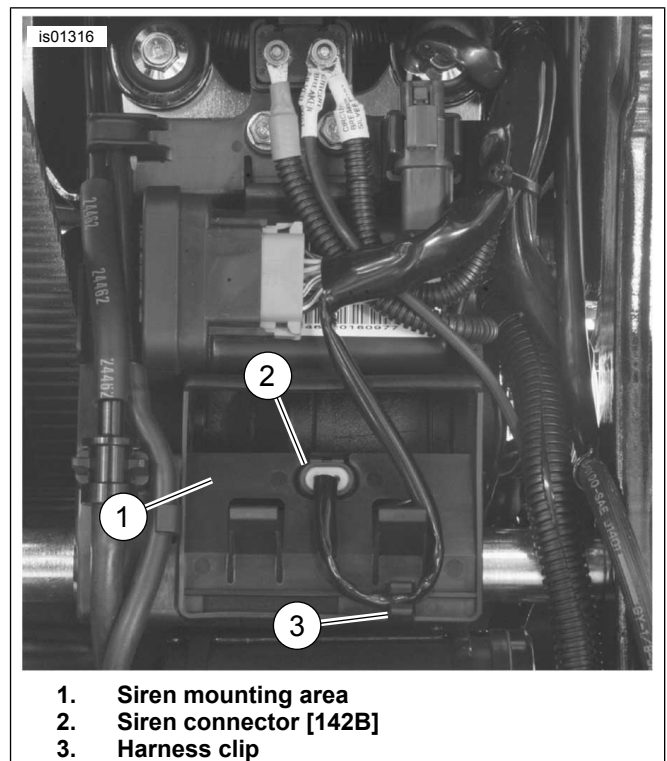

Figure 16. Siren Connector (Softail Models EXCEPT FXCW/C) (Rear Fender View with Rear Wheel Removed)
- See Figure 16. Remove the siren connector [142B] (2) from the receptacle in the siren mounting area (1) of the electrical panel.